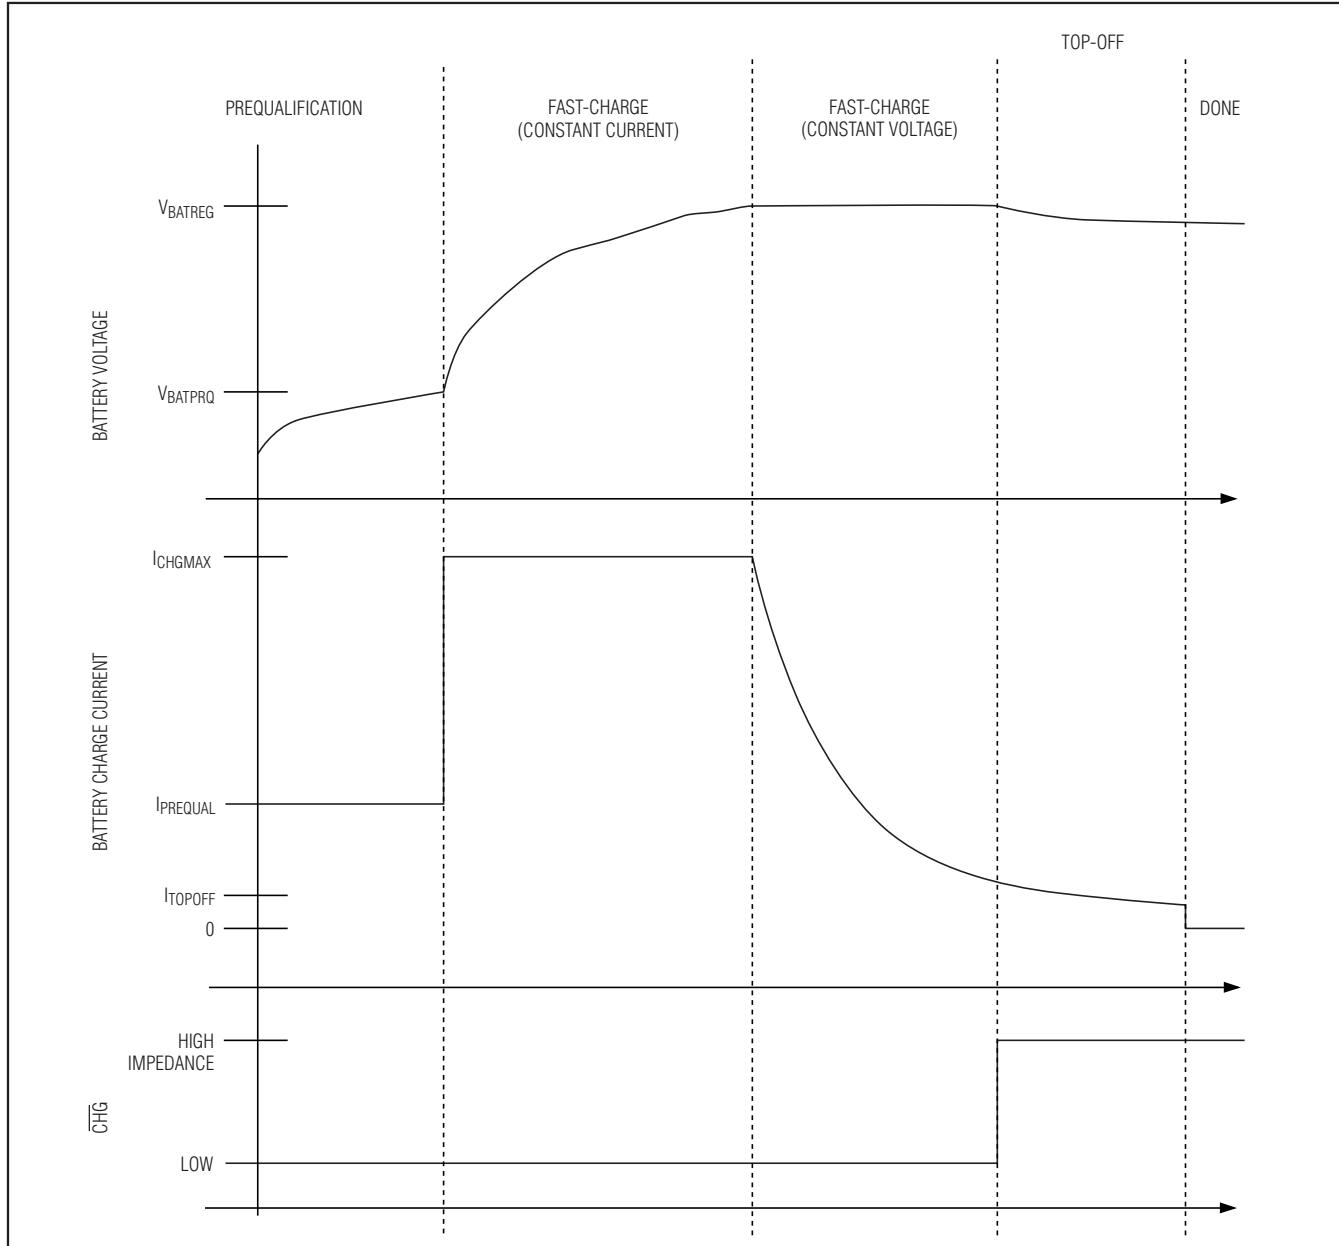
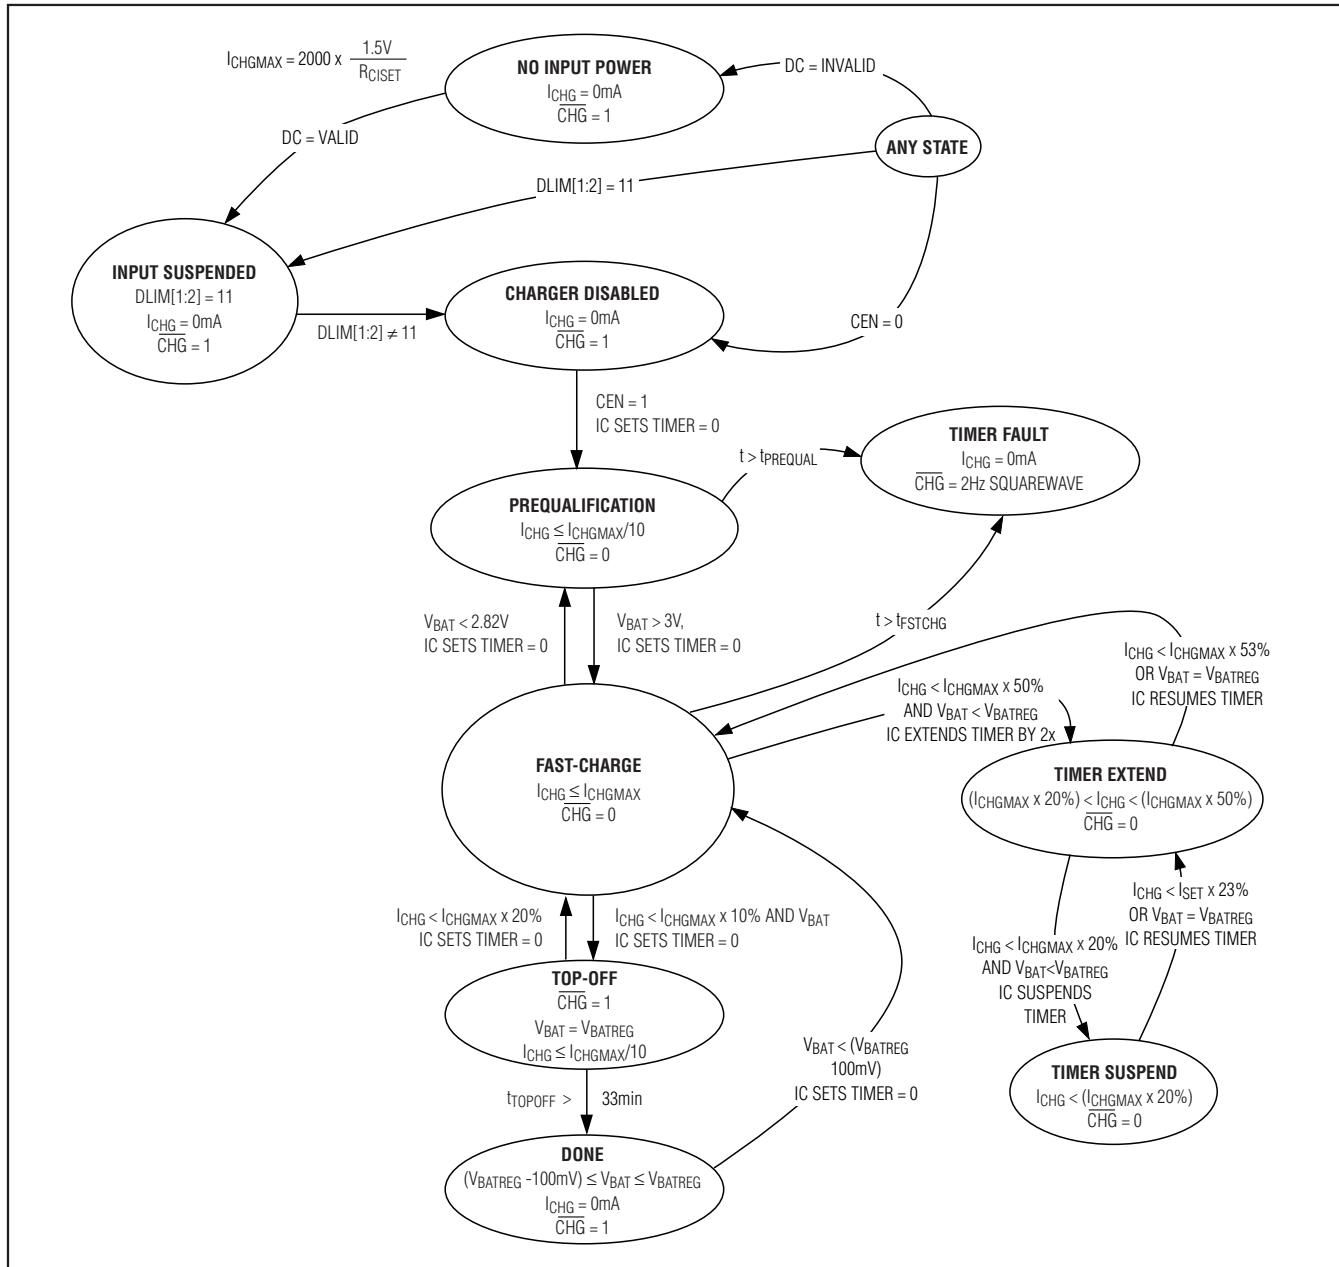

Figure 2. Li+/Li-Poly Charge Profile
Figure 3. Li+/Li-Poly Charger State Diagram
Figure 2 shows the typical Li+/Li-Poly charge profile for the MAX8819A, and Figure 3 shows the battery charger state diagram.
- The battery charger stops charging in done mode as shown in Figures 2 and 3.
CHG is an open-drain, active-low output that indicates charger status. As shown in Figures 2 and 3, CHG is low when the charger is in its prequalification or fast-charge states. When a timer count is exceeded in either state, CHG indicates the fault by blinking at a 2Hz rate and remains in that state until the charger is reset by CEN going low, removal of DC or setting DLIM[1:2] = 11.
As shown in Figure 3, a fault timer prevents the battery from charging indefinitely. In prequalification mode, the charge time is internally fixed to 33min.
While in the constant-current fast-charge mode (Figure 2), if the MAX8819\_ reduces the battery charge current due to its internal die temperature or large system loads, it slows down the charge timer. This feature eliminates
nuisance charge timer faults. When the battery charge current is between 100% and 50% of its programmed fast-charge level, the fast-charge timer runs at full speed. When the battery charge current is between 50% and 20% programmed fast-charge level, the fast-charge timer is slowed by 2x. Similarly, when the battery charge current is below 20% of the programmed fast-charge level, the fast-charge timer is paused. The fast-charge timer is not slowed or paused when the charger is in the constant voltage portion of its fast-charge mode (Figure 2) where the charge current reduces normally.